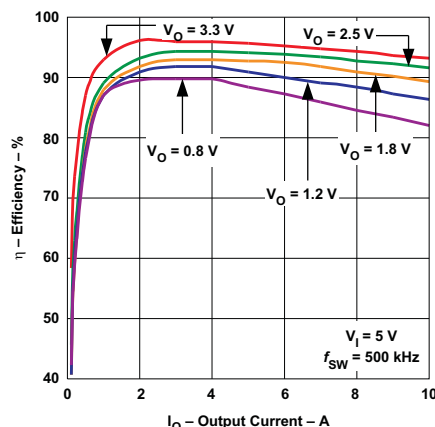
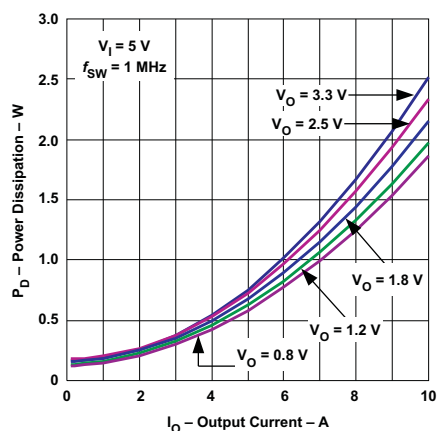

Figure 10. Efficiency
Figure 15. Power Dissipation
- The electrical characteristic data (Figure 10 through Figure 15) has been developed from actual products tested at 25°C. This data is considered typical for the converter.